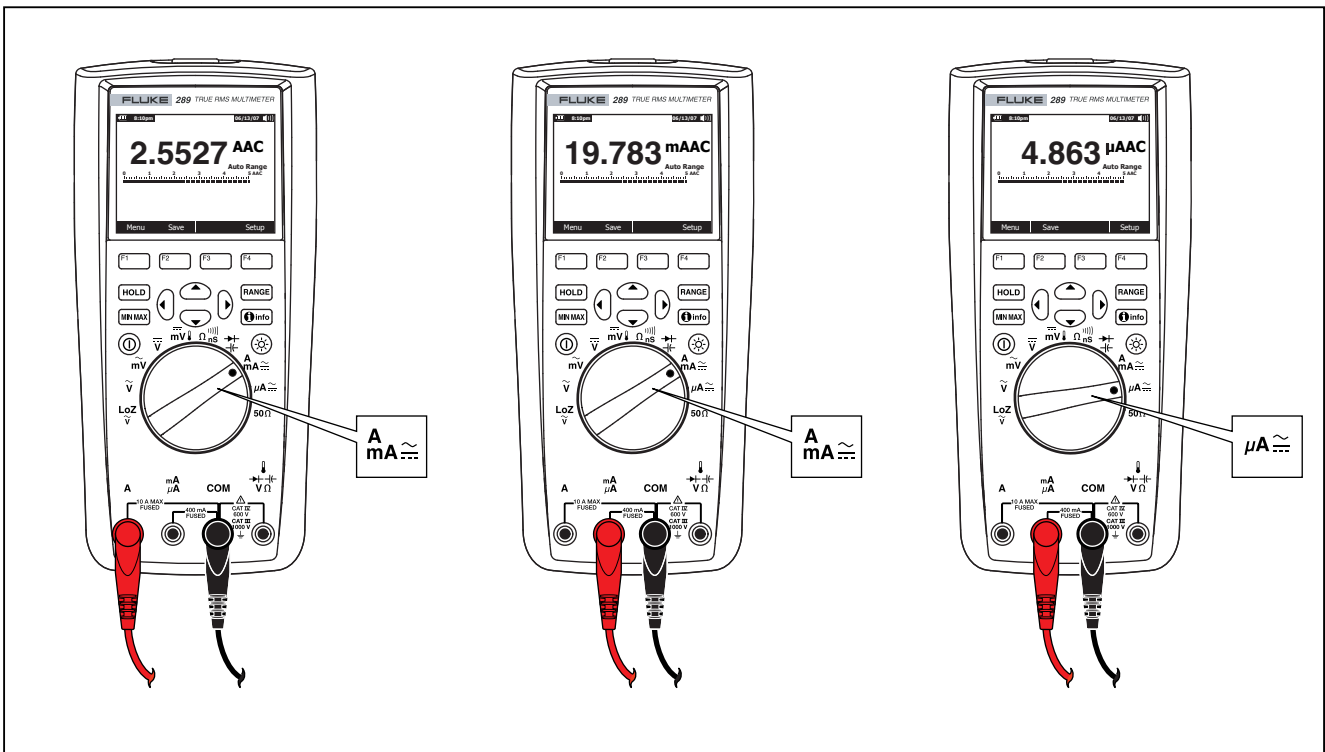

Figure 21. Current Measurement Setup
3. If you are using the A terminal, set the rotary switch to $\overset{A}{\text{mA}} \approx$. If you are using the mA/μA terminal, set the rotary switch to $\mu\text{A} \approx$ for currents below 5000 μA (5 mA), or $\overset{A}{\text{mA}} \approx$ for currents above 5000 μA. See Figure 21 for test lead connections and function selection. Refer to the "Input Alert Feature" section for information on the alerts the Meter uses when leads are not used correctly for current measurements.